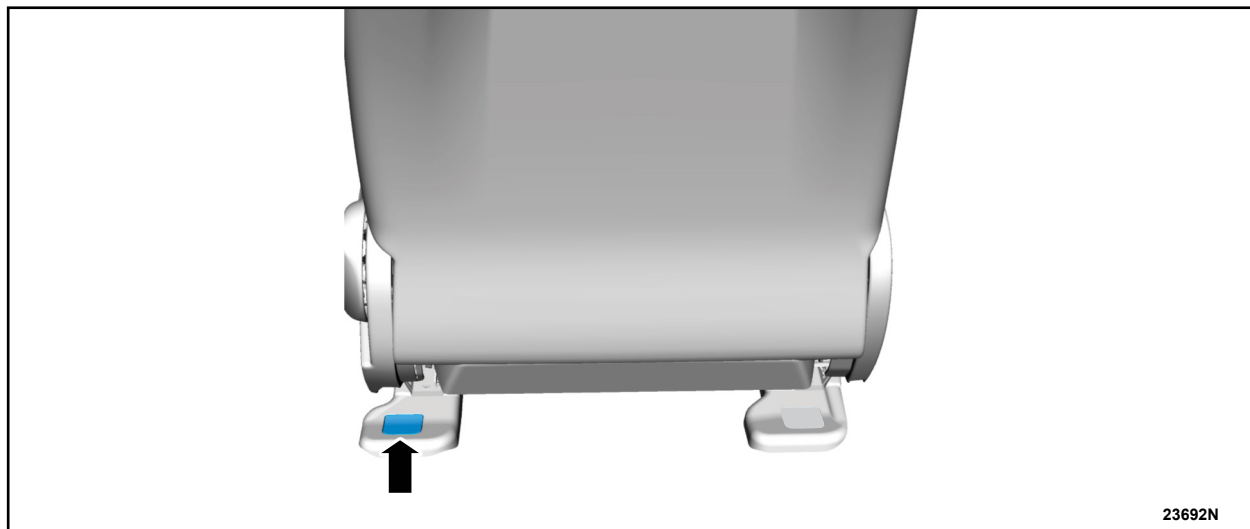

FIGURE 3
7. Remove the front seat rear outboard shield bolt cap on both sides of the vehicle. See Figure 3.